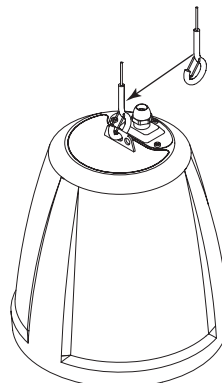

Figure 4
5. Attach the snap hook to the suspension tab on the loudspeaker (Figure 4). Make sure the safety latch on the hook closes fully with the loudspeaker attached before you transfer the weight of the loudspeaker to the cable.